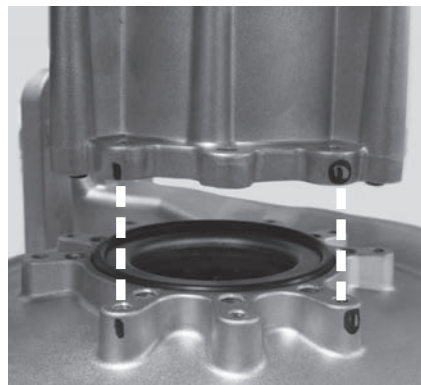

Figure 102 - Proper venturi and fan alignment
17 Install the new venturi to the fan. Reference the orientation mark on the old venturi to position the new venturi properly as shown in Figure 102. Use the screw hole marks on the fan to properly install the four (4) screws previously removed in **Step 13**.